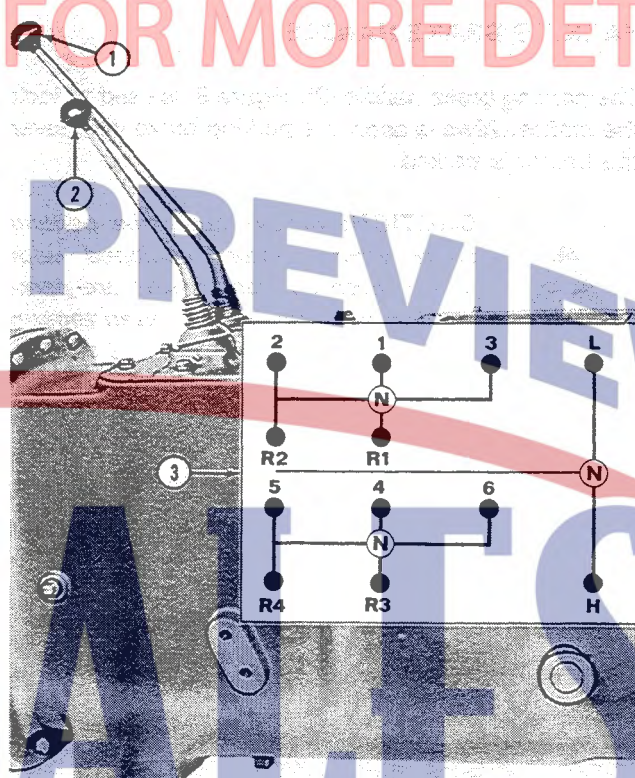

Figure 13
The gearshift levers for the 6 x 4 manual transmission are shown in Figure 13. A diagram of the shift pattern (3) is provided directly below the Proof-Meter on the tractor. The transmission gearshift lever (1) is used to select 3 forward and two reverse gear ratios. The high-low shift lever (2) is used to select a high or low range in each gear, providing 6 forward and 4 reverse gear ratios.